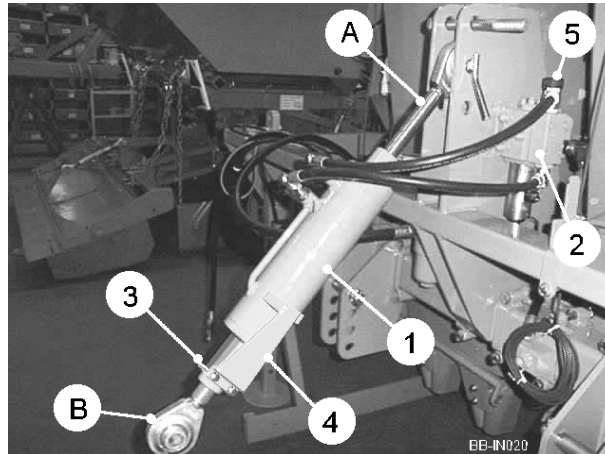
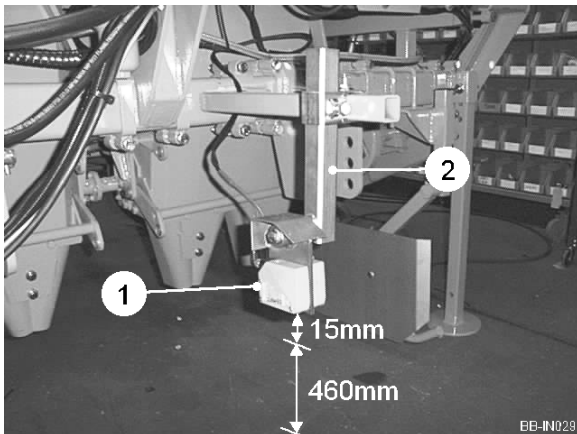

Fig 20
Fig 21
Hydraulic depth control allows the depth at which the openers dig to be adjusted whilst planting. A depth ram (item 1, figure 20) replaces the top link between the planter and tractor. The ram is actuated from the tractor via the control valve (item 2, figure 20). Two control box buttons marked 'raise' and 'lower' raise/lower the openers.
8. With the depth ram still in its mid-stroke position, loosen the 'U' clamp (item 3, figure 20) and move the depth indicator (item 4, figure 20) until the top edge aligns with the mid position mark on the depth indicator decal.
The speed at which the ram moves can be adjusted using the valve control knob (item 5, figure 20). The ram should be set to move slowly and smoothly. The depth ram should only control planting depth when in work. The wheel legs should be adjusted if a more permanent depth is required (see section 'Setting the Planting Depth')
Automatic depth control ensures that the desired planting depth is maintained irrespective of the contours of the bed. Two PIR (passive infra red) sensors (item 1, figure 21) positioned either centrally in front of the planter, or to the left or right at the rear of the planter depending on configuration, activate the hydraulic control valve operating the depth ram (item 1, figure 20). The depth ram then raises/lowers the planter relative to the wheels thus maintaining planting depth.
4. Fully lower the auto-depth sensor leg (item 2, figure 21) and then gradually raise it until the point at which both 'up' and 'down' sensor lights illuminate (approx 460mm above bed). Ensure the sensors are sensing the height of the bed and not any other surface in-between.
4. Place a non-reflective surface on the ground under the sensors and position the sensor unit leg (item 2, figure 21) to the required 'up' activating distance.